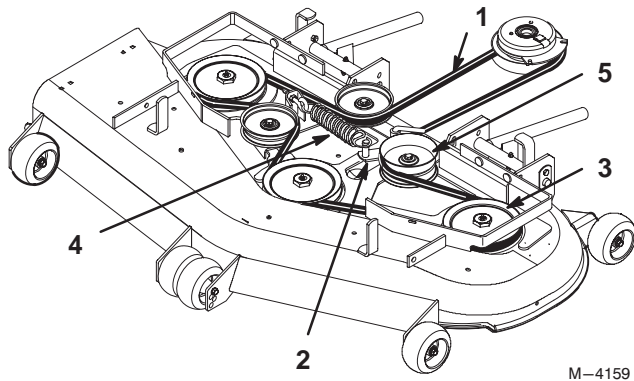

Figure 46
4. Remove belt. Start at outside pulley and rotate off (Fig. 46).
8. Reinstall idler pulley and route belt onto other pulleys (Fig. 46).